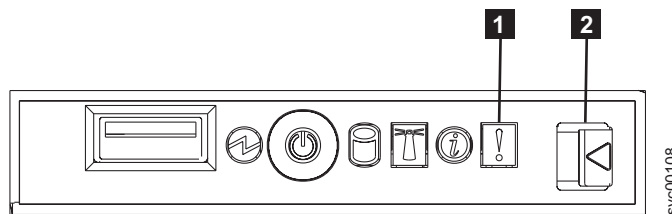

Figure 93. SAN Volume Controller 2145-8F4 operator-information panel
- Is the Error LED, shown in Figure 93, on the SAN Volume Controller 2145-8F2 or the SAN Volume Controller 2145-8F4 operator-information panel illuminated or flashing?